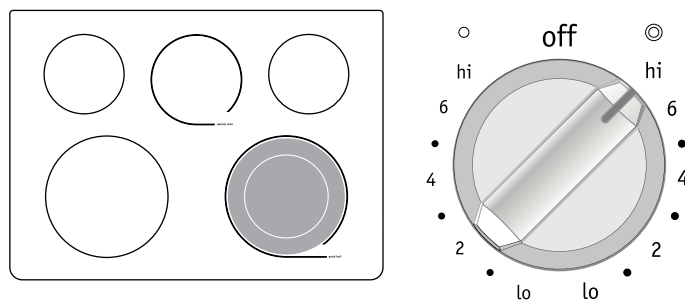
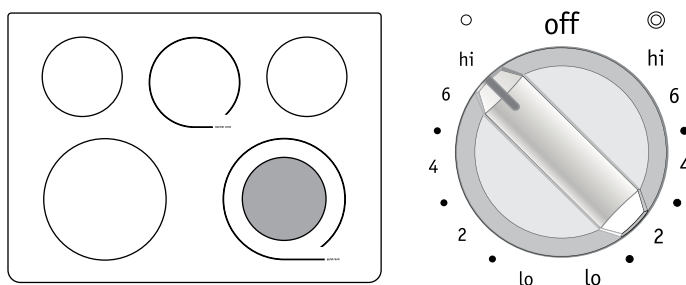

Figure 1 - Heating with both portion*
Figure 2 - Heating with inner (small) portion only*
2. Push in and turn the surface control knob clockwise to begin heating both, the inner and outer portions of the element (Marked double - see figure 1) If only the inner heating portion is needed (marked single - see figure 2) for smaller cookware, push in and turn the knob counterclockwise.